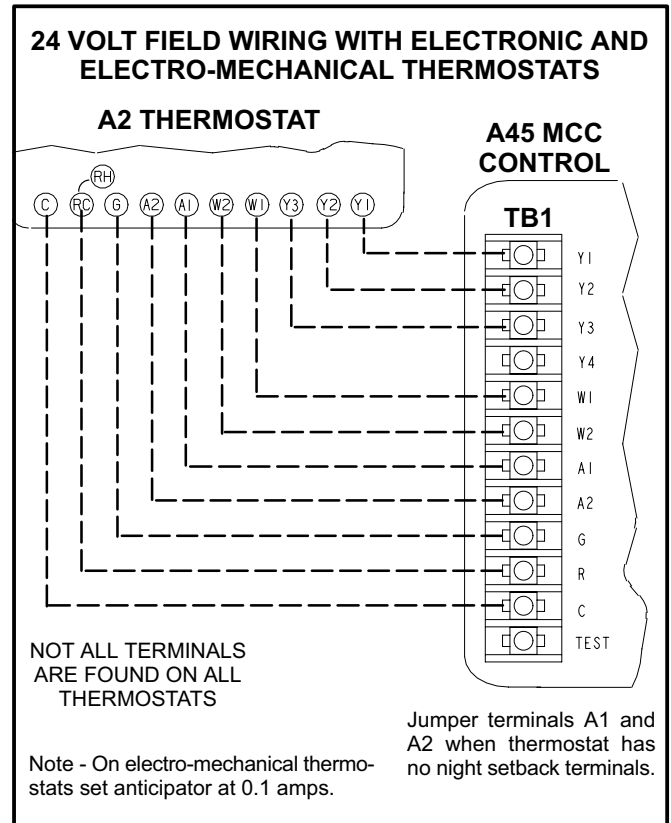

FIGURE 6
- 3- Connect thermostat wiring to TB1 terminal on MCC (A45) control board as shown in figure 6 for electro-mechanical and electronic thermostats. If using other temperature control devices or energy management systems see instructions and wiring diagram provided by manufacturer.